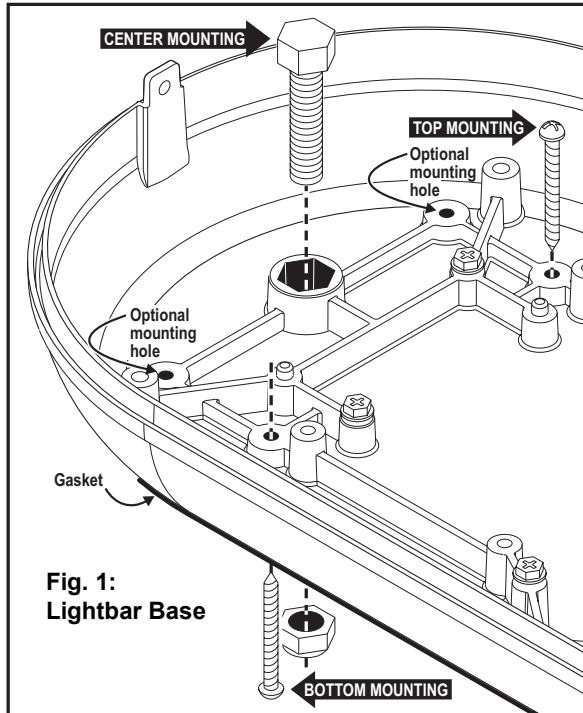

Fig. 1:
2. With a 3/16" drill bit, drill out the 4 mounting bosses in the base for clearance holes for #8 sheet metal screws (figs. 1 & 2).